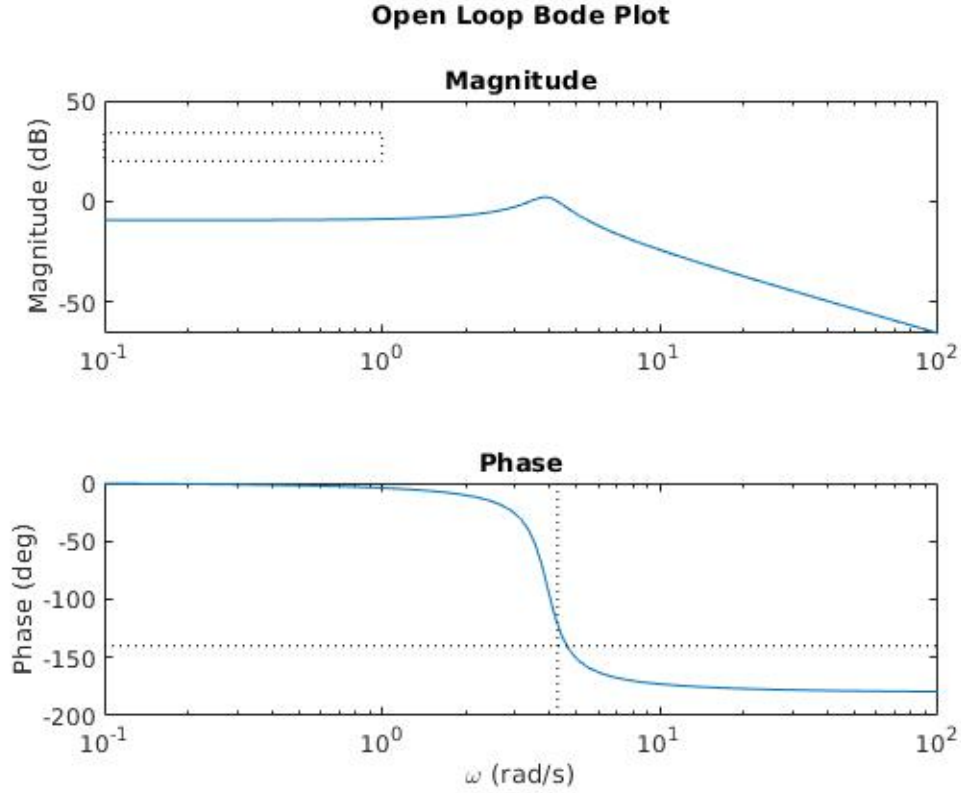

Figure 1: Open Loop Bode plot of vectored thrust aircraft. The dotted lines indicate the desired constraints.
- (a) To begin, the open loop Bode plot is plotted in Figure 1, annotated with the desired constraints. In particular, the Magnitude plot includes a rectangle in the upper left corner. The steady state (zero frequency) gain should be above the upper edge of the rectangle, and the magnitude should remain over the lower edge until the right edge, at 1 rad/s. The Phase plot shows the requirement for the phase margin, where the vertical line is the zero gain crossing point and